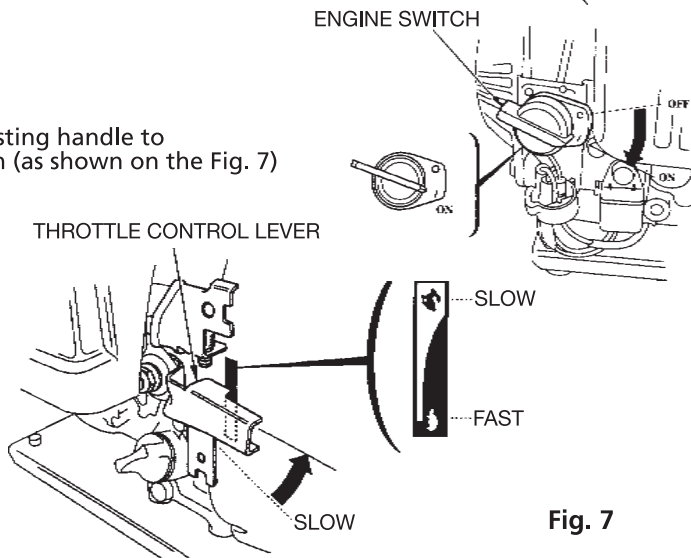

Fig. 6
3. Put the engine switch to ON position (as shown on the Fig. 6)